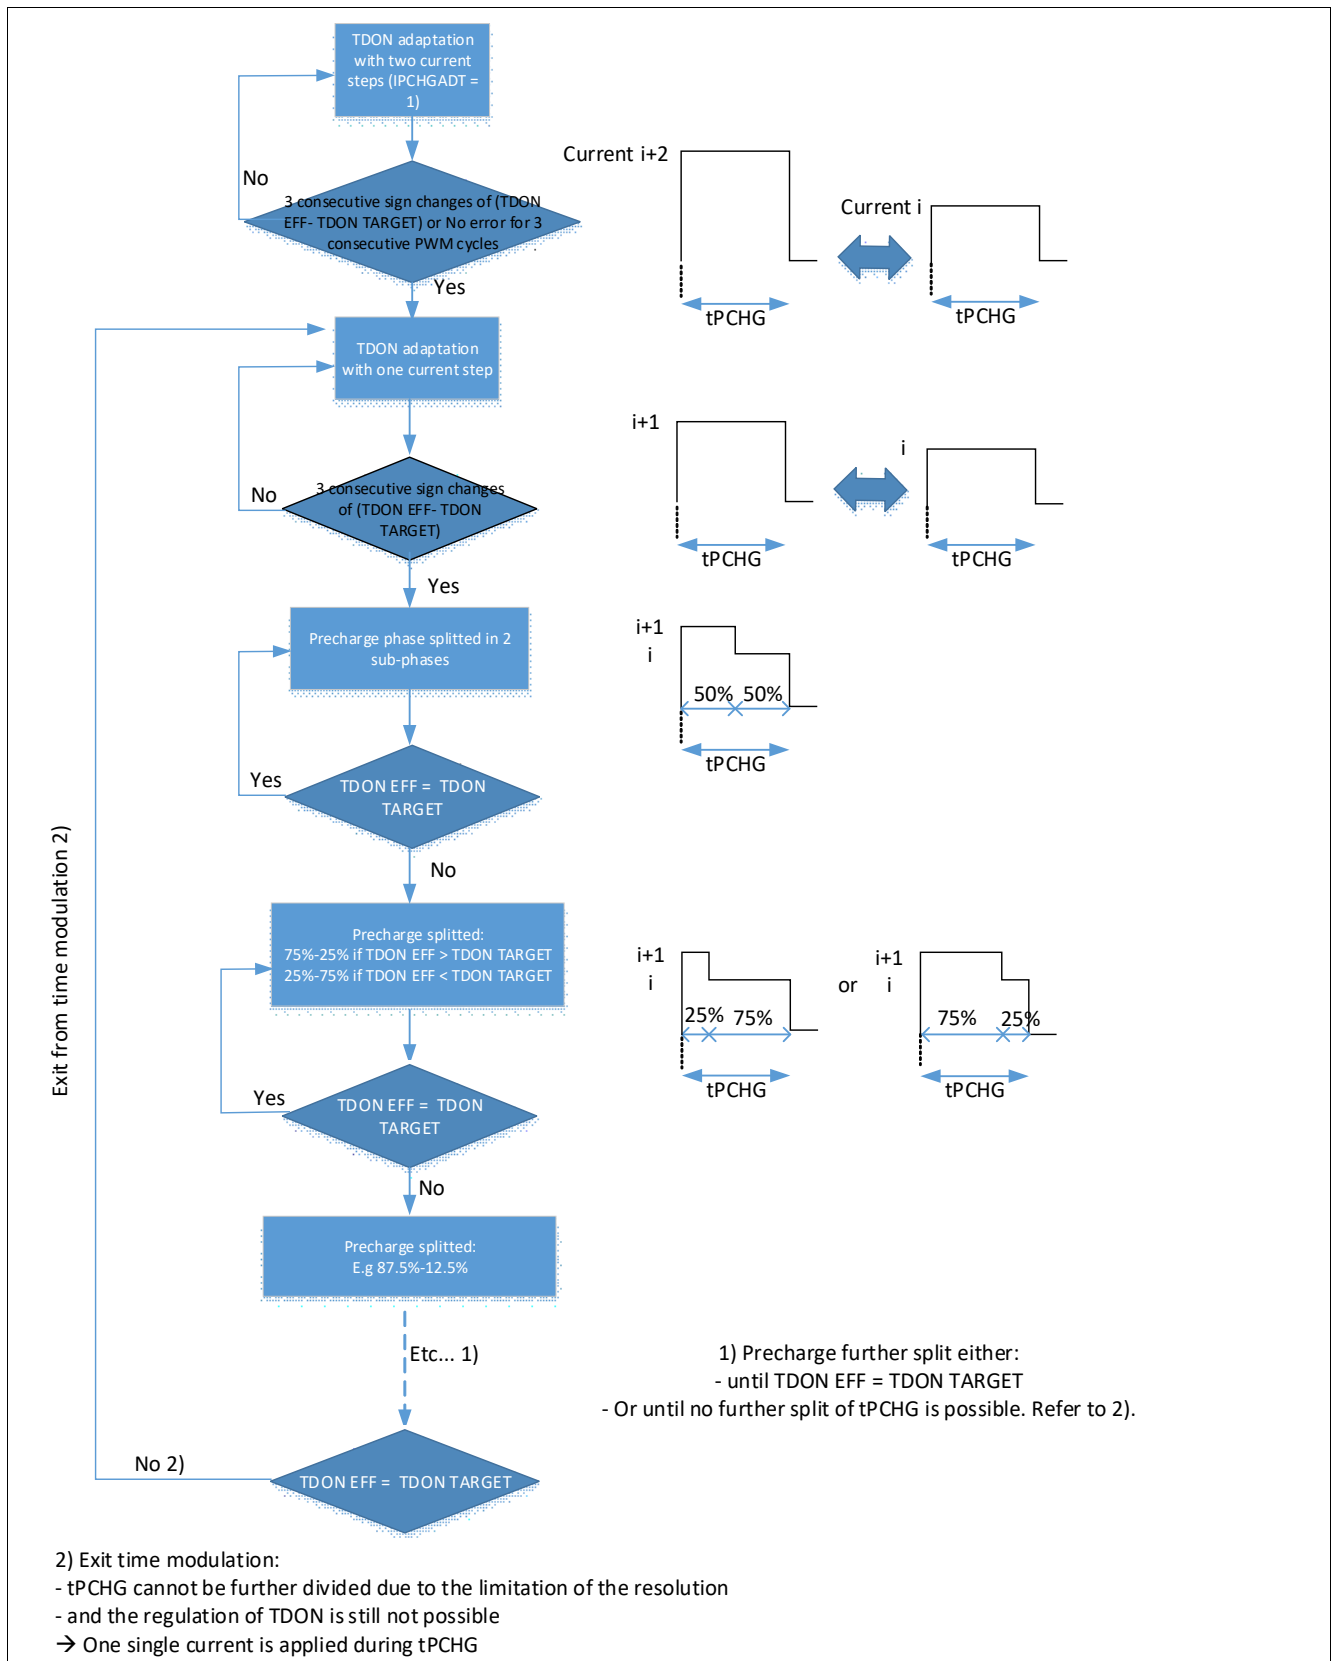

Figure 38 Principle of the time modulation of the precharge phase, DEEP\_ADAP = 1, AGC = 10B or 11B
**Figure 38** describes the principle of the time modulation applied to the precharge phase. The same principle is also applied for the regulation of the pre-discharge phase.